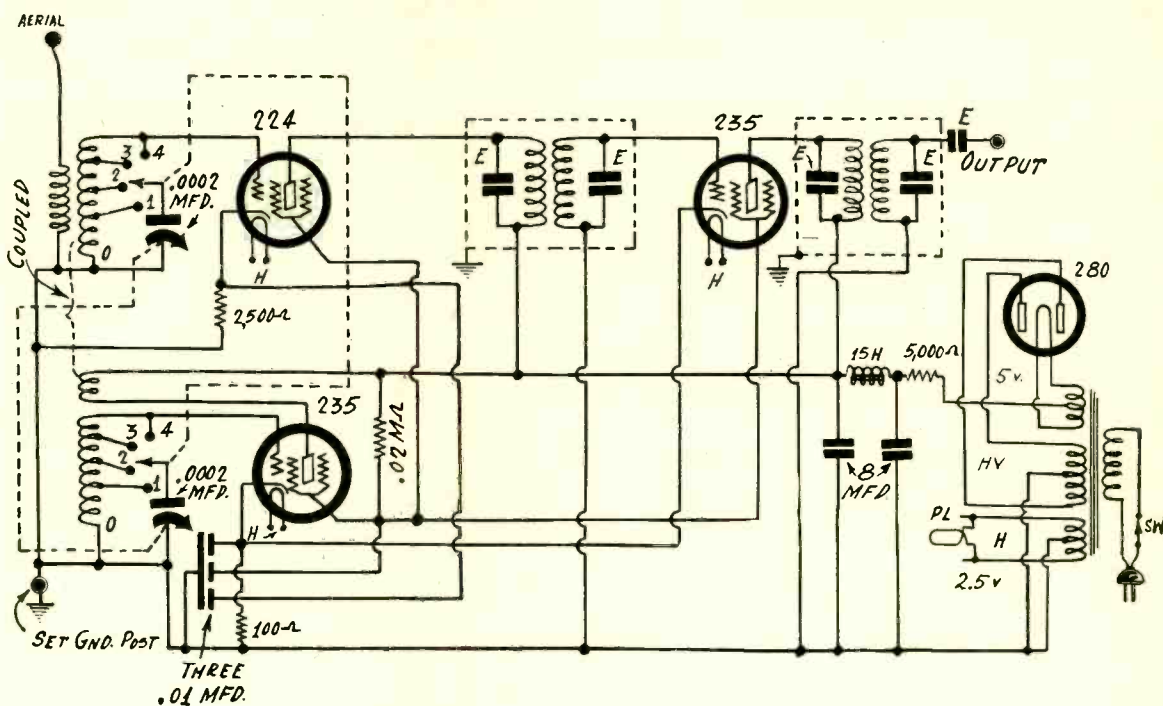

FIG. 1
**T**WO intermediate frequency transformers are built into the DX-4-VM short-wave converter, as shown in Fig. 1, so that there is a stage of intermediate frequency amplification built in, while the output therefrom is tuned.